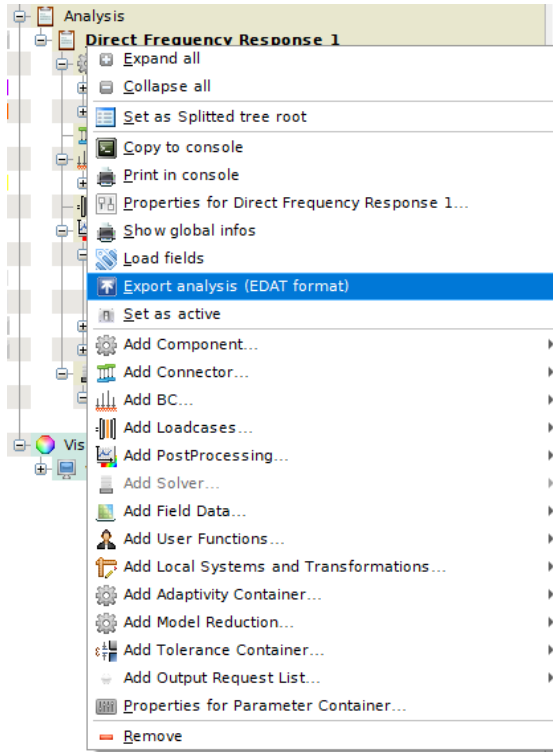

Figure 6.31: Export the analysis in EDAT format
- Right-click on the Direct Frequency Response, choose Export analysis (EDAT format), as shown in Figure 6.31;